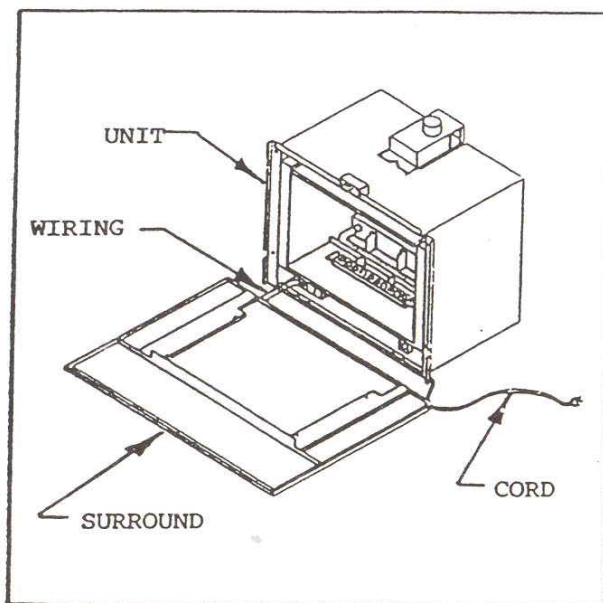

FIGURE 4
This unit comes with a removable front surround to allow access for gas line hook-up and venting hook-up. To remove the front surround, loosen and remove the top glass retainer from the unit and carefully remove the glass door assembly. Remove the two (2) screws at the bottom corners of the front surround and CAREFULLY pull the surround out away from and lay it down in front of the unit. See Figure 4